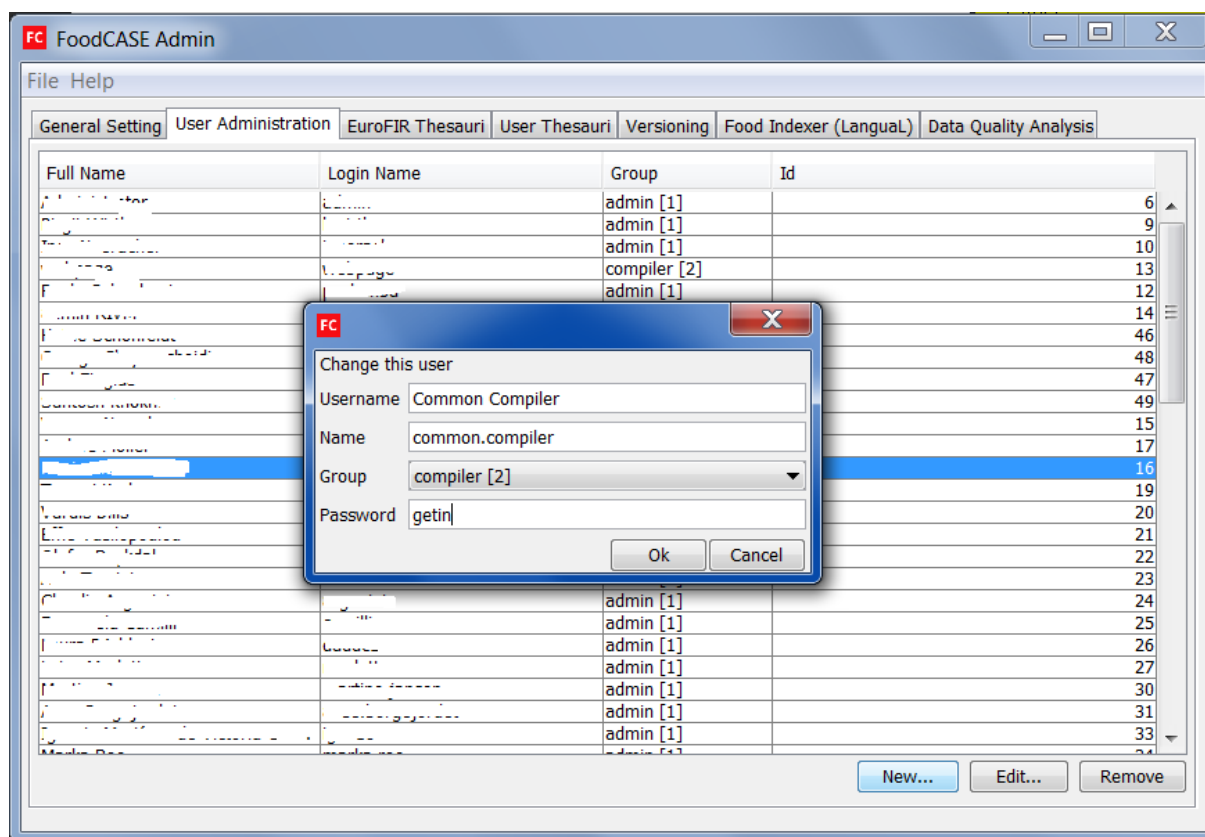

Figure 6.2.1-1
4. Click the **OK** button to save the user (Figure 6.2.1-1)